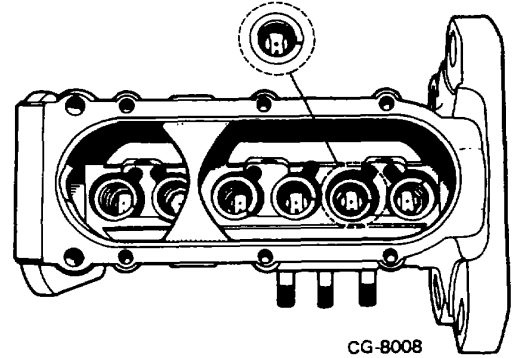

Figure 5.
15. Insert each plunger into correct barrel. Make sure each plunger foot is positioned so that notch on plunger foot points away from control rack (Figure 5).